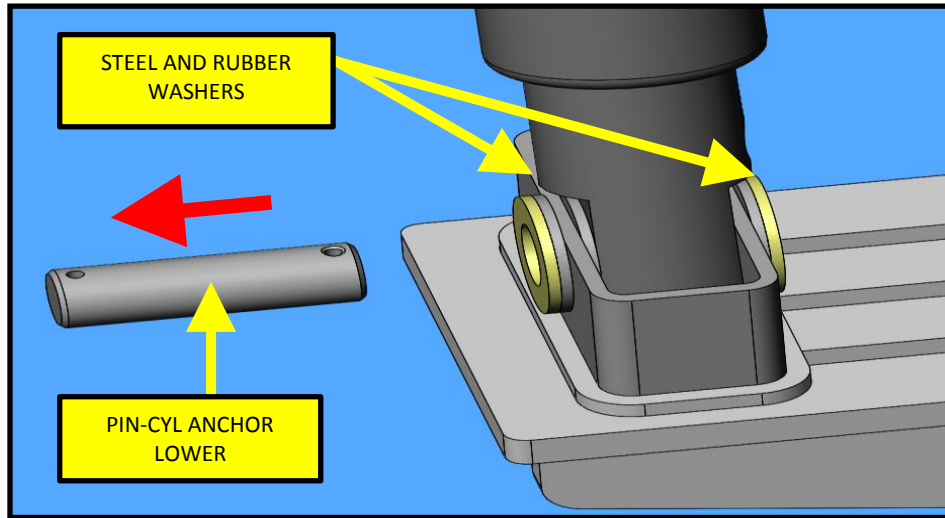

FIG. 5-1
- Slide out lower pin and remove all steel and rubber washers and properly dispose of. Refer to FIG. 5-1.